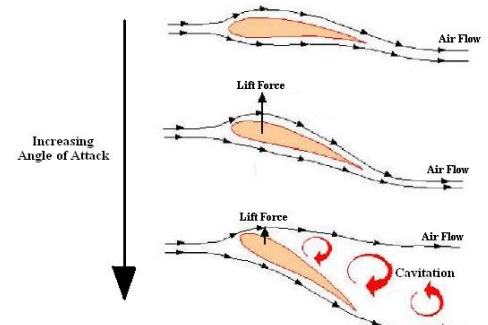
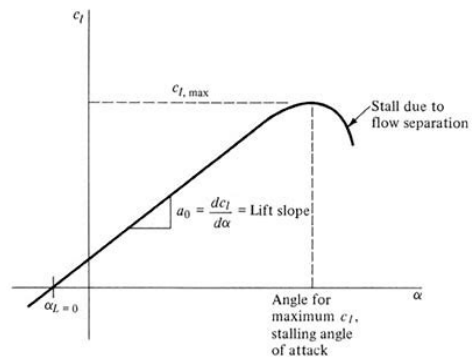

Figure 2 – diagram showing the change in lift force with increasing angle of attack (17)
Figure 3 – lift curve of angle of attack(x) against lift(y) (18)
During these turns, the body of the whale will roll, which in turn allows a hydrodynamic force perpendicular to the flipper, supplying a centripetal force vital to maintain the sharp turn. The bigger the force, the sharper the turn and this force is increased by the angle of attack from the fins (5). The angle of attack is the ‘angle between the flow of water and the face of the flipper’ (6). Increasing the angle of attack pushes down the water flow and therefore, increases the force. This occurs up to a certain angle until the angle becomes too steep and there isn’t enough water flowing over the top of the fin resulting in a ‘stall’ (6). This causes increased drag and a loss of hydrodynamic force with a reduced centripetal force making the turns ineffective. Stall is a phenomenon observed in aircraft, causing a loss of lift on the wing, as demonstrated in Figure 2. The same behaviour is observed with the hydrodynamic force from the whale flipper. Here, ‘lift’ is equivalent to this hydrodynamic force. Figure 3 shows a typical lift curve slope of an aerofoil which governs the behaviour seen in Figure 2. The lift coefficient of the aerofoil increases linearly with angle of attack up until a maximum angle beyond which there is a loss of lift (stall).